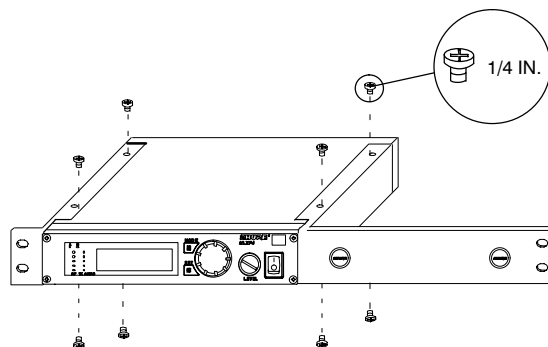

FIGURE 49
3. Slide the receiver into an 19-inch audio equipment rack, as shown in Figure 49.